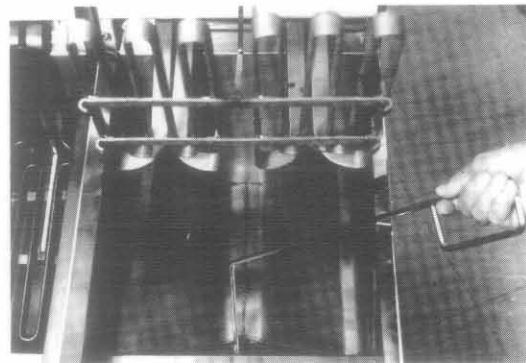

Figure 2
4. If the fryer drain valve becomes clogged with food particles, you may use the FRYER'S FRIEND (Poker-like tool) to unclog the valve. This tool must be used from inside the frypot only and caution must be exercised so that the user grips the tool as far as possible above the hot shortening in the frypot. See Figure 2. Do not ram the FRYER'S FRIEND into the drain valve from inside the frypot when the valve is closed. This causes damage to the ball inside the valve. The valve will leak when this occurs. NEVER use the FRYER'S FRIEND or any other tool to unclog the valve from the front. HOT shortening could run out rapidly and cause injury. See Figure 1.